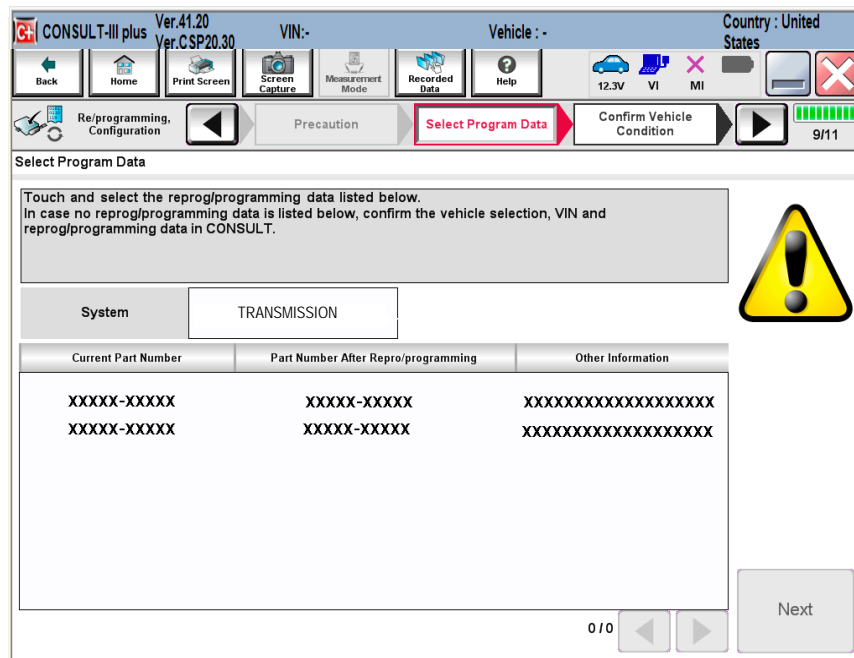

Figure 27
- If more than one P/N is available, the screen in Figure 27 will display. Select and use the reprogramming option that **does not** have the message "Caution! Use ONLY with ITBXX-XXX".